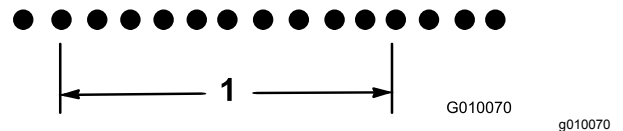

Figure 69
18.8 divided by 10 is 1.88, hole spacing is short by 0.12 inch from nominal (Figure 69).